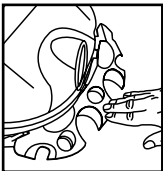

FIGURE 16
20. Press down on center of tool holder until tab latches on bottom of lid. **FIGURE 16.**